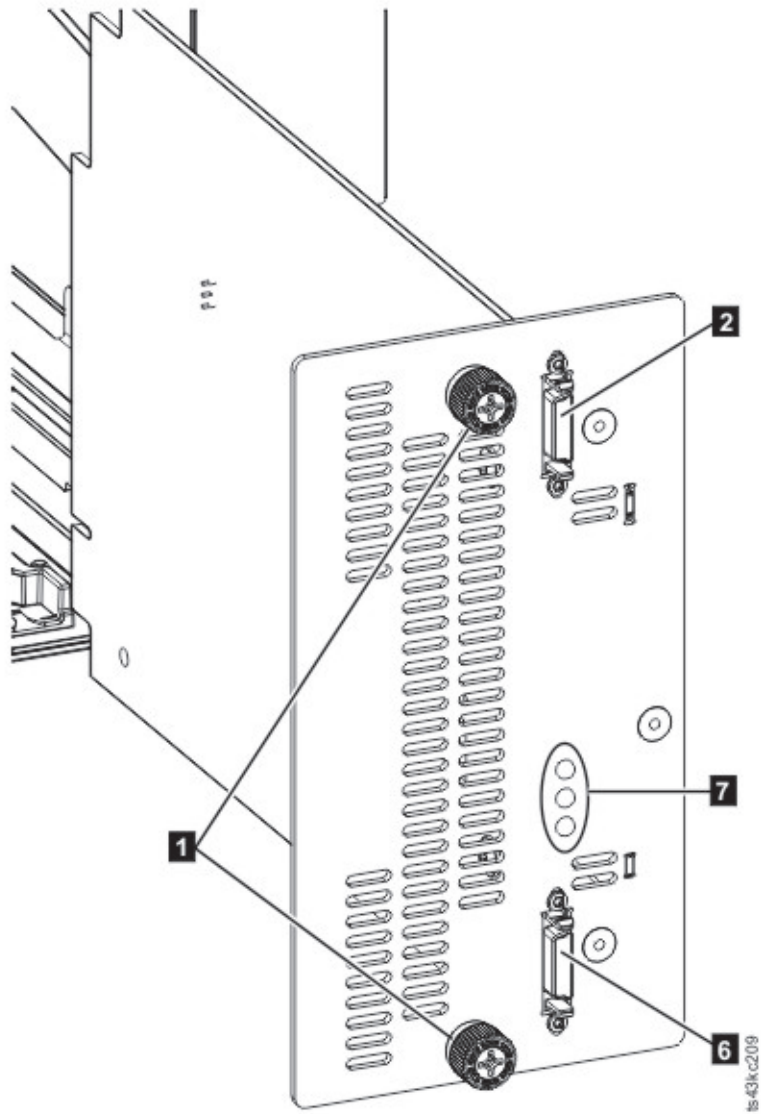

Figure 71. Expansion Module controller card components
3. Remove the Ethernet cables (**4** and **5**) and the USB cable (**3**), if present. (An Expansion Module does not have Ethernet or USB ports. See Figure 71 on page 122).
4. Replace the expansion interconnect cables (**2** and **6**), the Ethernet cable or cables (**4** and **5**), and the USB cable (**3**) that were removed previously. (An Expansion Module does not have Ethernet or USB ports. See Figure 71 on page 122).